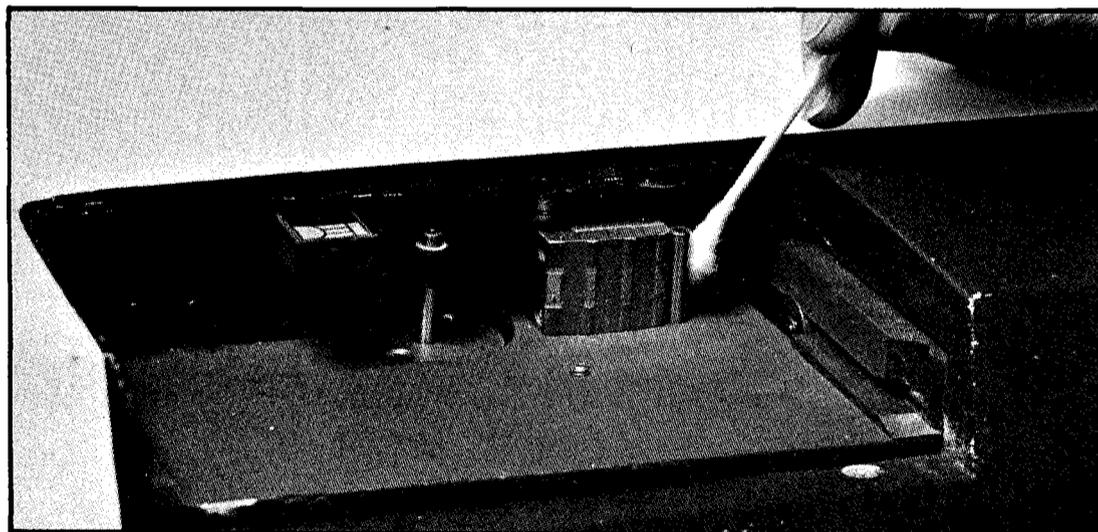

Figure 38. *Cleaning head guides*
5. Clean the head guides and head guide blocks with head cleaner. Guide blocks are immediately in back of the guides. Dry all parts with a clean, lint-free cloth (Figure 38).